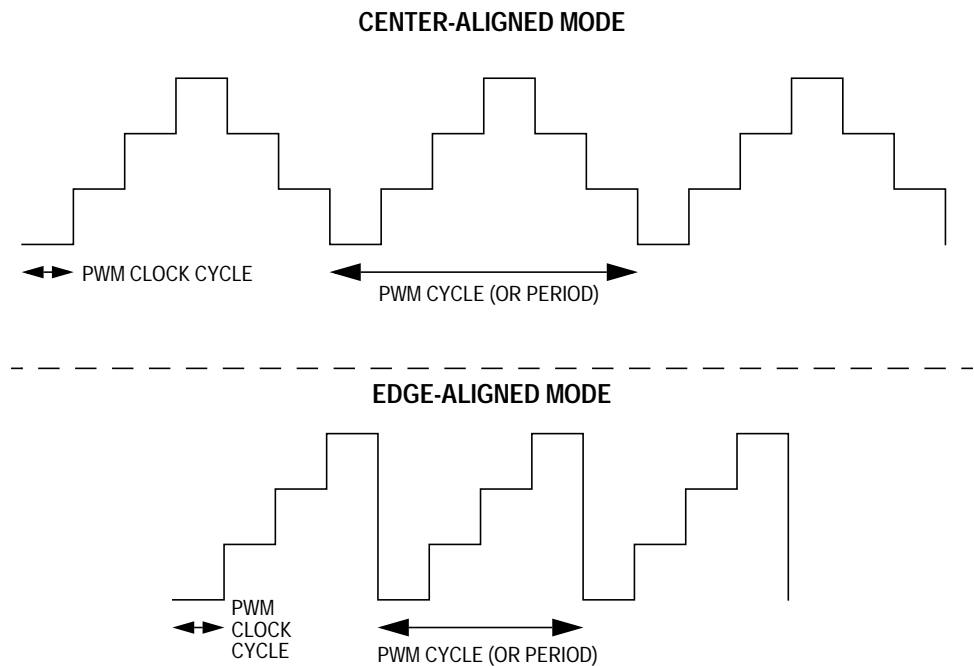

Figure 9-46. PWM Clock Cycle and PWM Cycle Definitions
PWM clock cycle (or period) — One tick of the PWM counter ($1/f_{op}$ with no prescaler). See Figure 9-46.
- Center-aligned mode: The time it takes the PWM counter to count up and count down (modulus $\times 2/f_{op}$ assuming no prescaler). See Figure 9-46.
- Edge-aligned mode: The time it takes the PWM counter to count up (modulus/ f_{op}). See Figure 9-46.